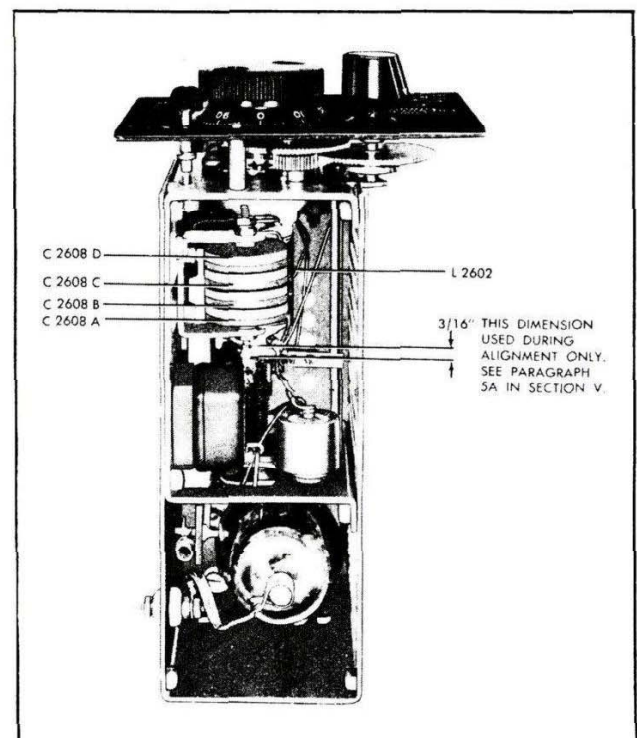

Figure 5-7. Low Frequency Oscillator
(5) Remove cover on top of L.F.O. unit by taking out screws around rim.
(6) Turn control "G" counterclockwise until revolution counter dial reads zero and control "G" will not turn any further. Operate corrector knob so that index line is directly above the center of control "G" even though it no longer points to zero line on the control.
(7) Measure the length of tuning slug that extends out of the rear end of inductor L2602. This dimension should be  $3/16$ " (see dimension shown in figure 5-7). If the slug extends out by this amount, no change in slug position is required and the following steps No. 8, 9, and 10 may be omitted—proceed with step No. 11. If the slug is incorrectly set, proceed with step No. 8.
(9) Hold gear train in dial drive mechanism, so that it cannot rotate. Then rotate control "G" until tuning slug in inductor L2602 extends  $3/16$ " out of the rear of the coil form (see dimensions shown in figure 5-7).
(10) Retighten Bristo setscrews in small spur gear.
(11) Loosen two setscrews in control knob "G" and holding the gear train stationary, set knob so that zero mark lines up with the index line. Then retighten setscrews in the knob.
(12) Set control "G" to read exactly 1964.0 (this is dial setting shown in calibration table 6-9 for frequency of 600 Kc). Approach setting in a clockwise direction.
(13) Replace shield cover on top of low frequency oscillator unit. Operate power level switch to CALIBRATE position.
(14) Connect headphones to sidetone output jack.
(15) While listening to sidetone output, adjust trimmer condenser C2608A (see fig. 5-7 and note that trimmer can be reached through slot in shield cover of LFO unit). Until zero beat is obtained between the output of the calibration oscillator in the CFI unit. These trimmer condensers are adjusted by changing the position of the small "pronged" metal lip that projects out from the side of the rounded edge of the capacitor.
(16) The alignment of band 3 is now complete. Rotate control "F" to band 2 (285 to 415 Kc).
(17) Set control "G" to read exactly 1055.0 (this is dial setting shown in calibration table 6-9 for frequency 350 Kc). Approach setting in a clockwise direction.
(18) While listening to sidetone output (in headphones), adjust capacitor C2608B (see fig. 5-7) until "zero beat" is obtained between output of low frequency oscillator and calibration oscillator in CFI unit.
(19) The alignment of band 2 is now complete. Rotate control "F" to band 1 (200 to 285 Kc).
(20) Set control "G" to read exactly 1216.8 (this is dial setting shown in calibration table 6-9 for frequency of 250 Kc). Approach setting in a clockwise direction.
(21) Listen to sidetone output and obtain "zero beat" by adjusting either or both trimmer capacitors C2608C and C2608D (see fig. 5-7).
(22) Alignment of band 1 is now complete. Check excitation over entire range on all three bands by rotating control "G" through 20 revolutions and observing P.A. GRID reading. The excitation should be nearly uniform over entire frequency range and P.A. GRID meter should read between 90 and 120.